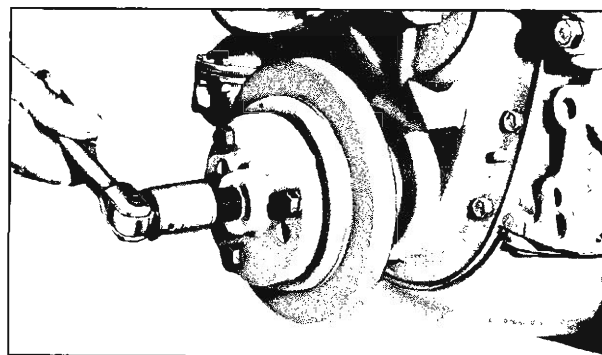

Fig. 10V—Removing Harmonic Balancer
6. Install Tool J-6978 to harmonic balancer and turn puller screw to remove balancer from crankshaft (fig. 10V).